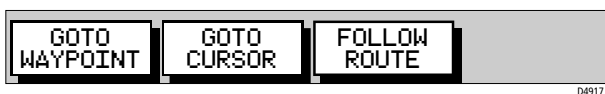

Figure 3-42: GoTo Soft Keys
- To access the Goto/Follow soft keys, press the GOTO default soft key; the GOTO soft keys are displayed as shown in *Figure 3-42*.
1. Press the GOTO default soft key to display the Goto/Follow soft keys (Figure 3-42).